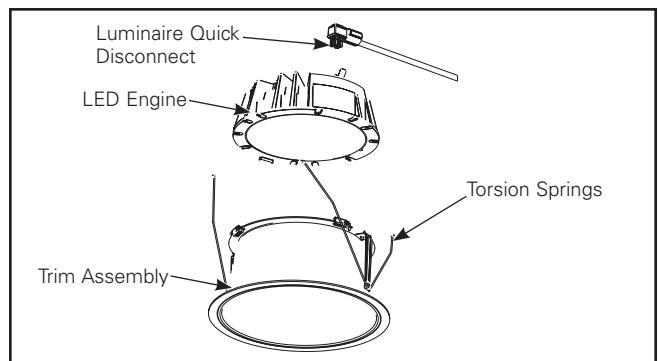

Figure 35.
1. 1. Place end of flexible conduit through frame opening in ceiling exposing upper portion of quick disconnect (Figure 35).